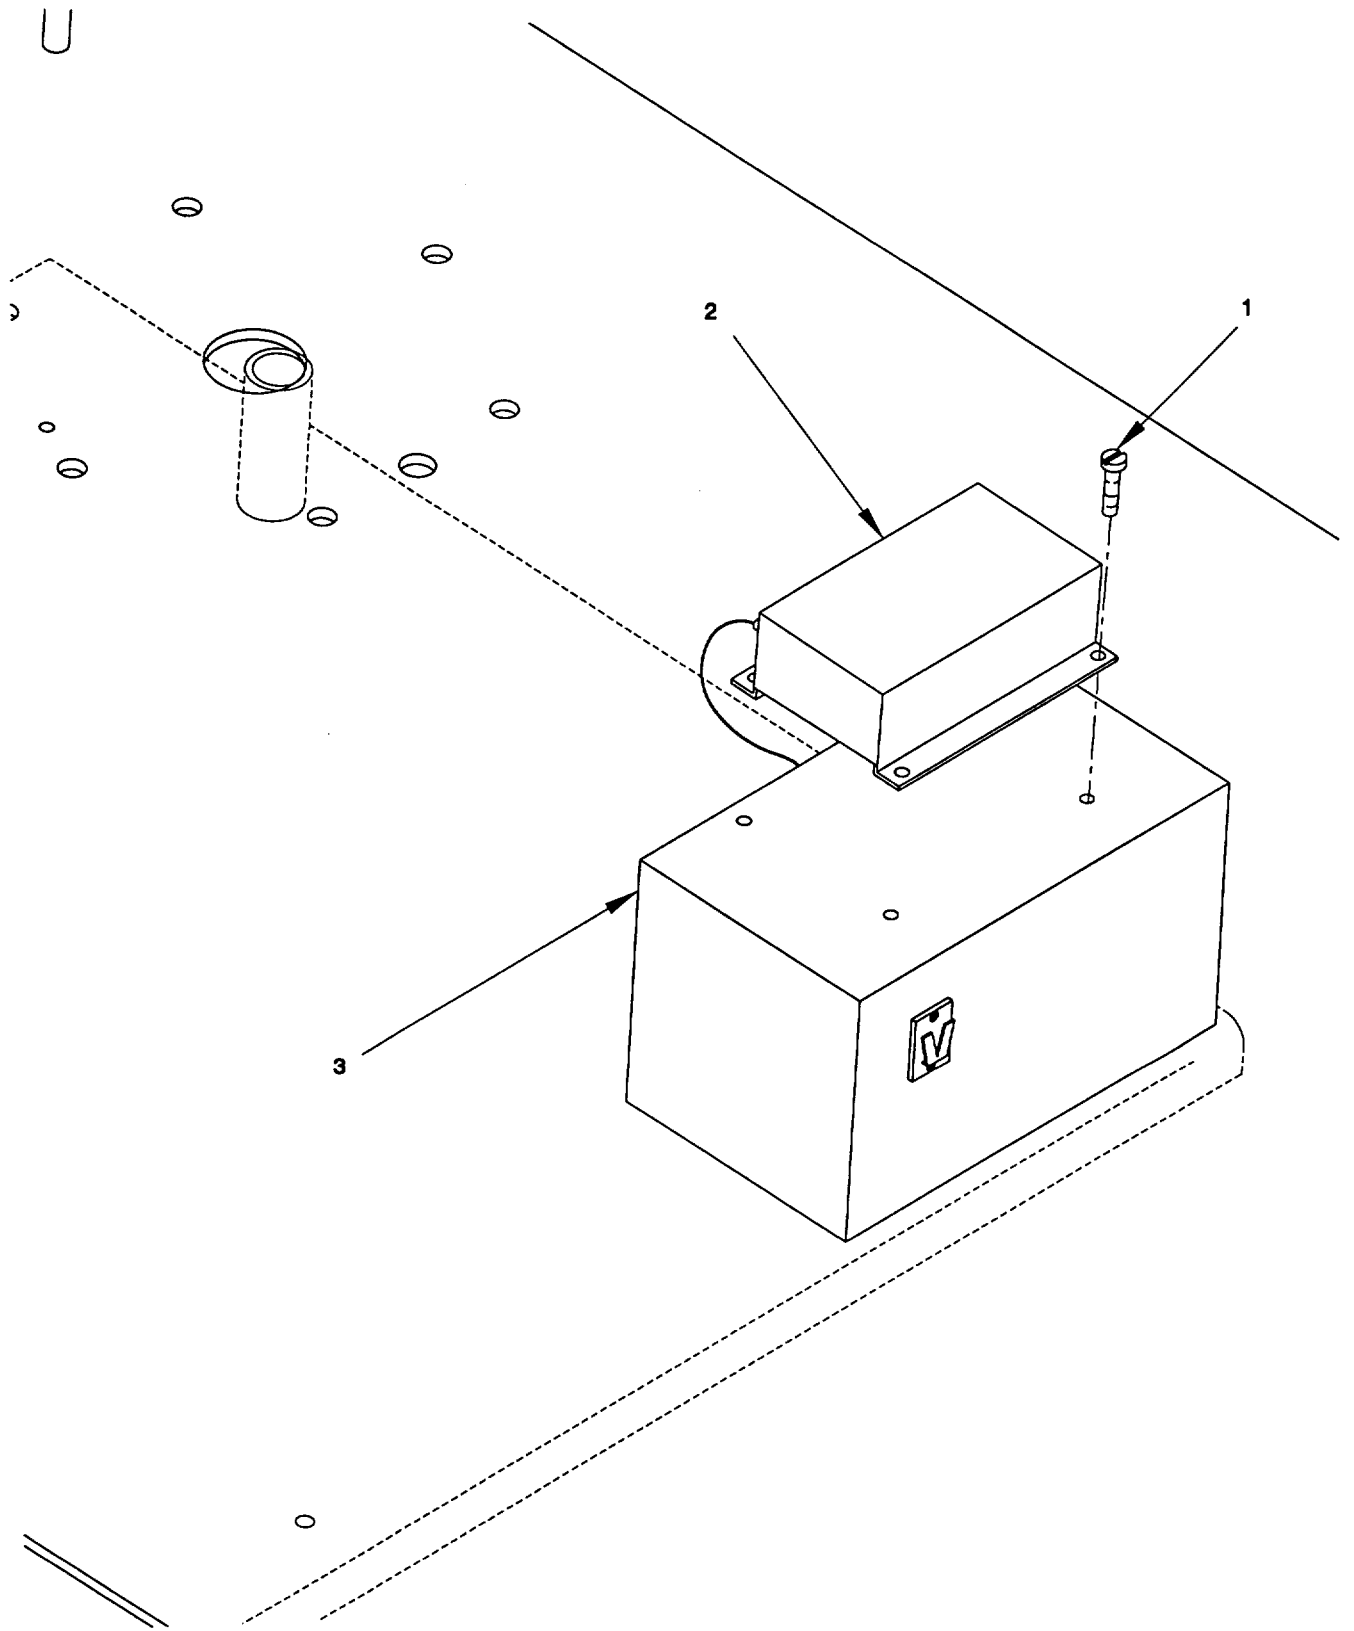

Figure 2-104. Converter (VHF-FM), Remove/Install
- a. *Remove.* (figure 2-104)
- (1) Tag and disconnect electrical wiring between junction box (3) and convertor (2). Refer to Appendix G.
- (2) Remove four pan head screws (1) securing convertor (2) to junction box (3). Remove convertor (2).
- b. *Install.* (figure 2-104)
- (1) Apply antiseize compound to theads on pan head screws (1).
- (2) Position convertor (2) on junction box (3). Secure convertor (2) with four pan head screws (1).
- (3) Reconnect electrical wiring, as tagged, between junction box (3) and convertor (2). Refer to Appendix G.